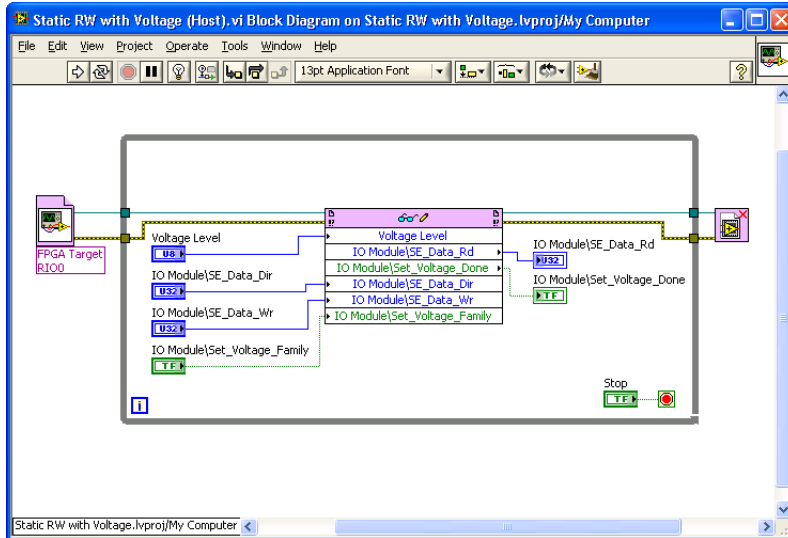

Figure 15. Data RW (Host).vi Block Diagram
9. Add a While Loop to the block diagram, as shown in Figure 15.
21. Right-click the stop condition of the While Loop and add an control. Label this control **Stop**. Your block diagram should now resemble the block diagram in Figure 15.